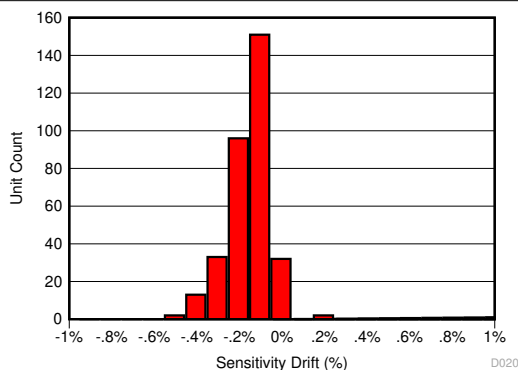
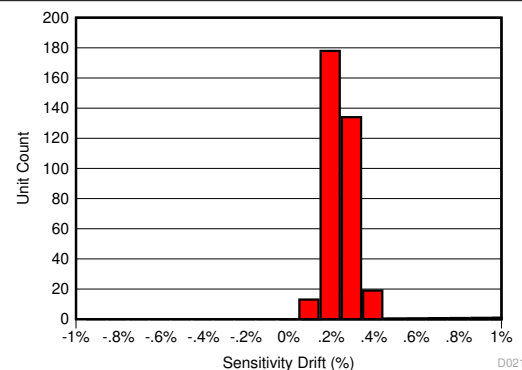
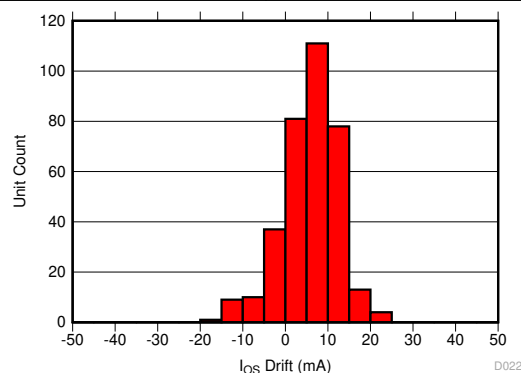

图 9-1. Sensitivity Error After 130°C, 85% RH HAST
图 9-2. Sensitivity Error Drift After AEC-Q100 High Temperature Operating Life Stress Test
图 9-3. Input-Referred Offset Drift After AEC-Q100 High Temperature Operating Life Stress Test
The same compensation techniques utilized in the TMCS1107 to reduce temperature drift also greatly reduce lifetime drift due to aging, stress, and environmental conditions. Typical magnetic sensors suffer from up to 2% to 3% of sensitivity drift due to aging at high operating temperatures. The TMCS1107 has greatly improved lifetime drift, as defined in the Electrical Characteristics table for total sensitivity error measured after the worst-case stress test during a three lot AEC-Q100 qualification. All other stress tests prescribed by an AEC-Q100 qualification caused lower than the specified sensitivity error, and were within the bounds specified within the Electrical Characteristics table. 图 9-1 shows the total sensitivity error after the worst case stress test, a Highly Accelerated Stress Test (HAST) at 130°C and 85% relative humidity (RH), while 图 9-2 and 图 9-3 show the sensitivity and offset error drift after a 1000 hour, 125°C high temperature operating life stress test as specified by AEC-Q100. This test mimics typical device lifetime operation, and shows the likely device performance variation due to aging is vastly improved compared to typical magnetic sensors.